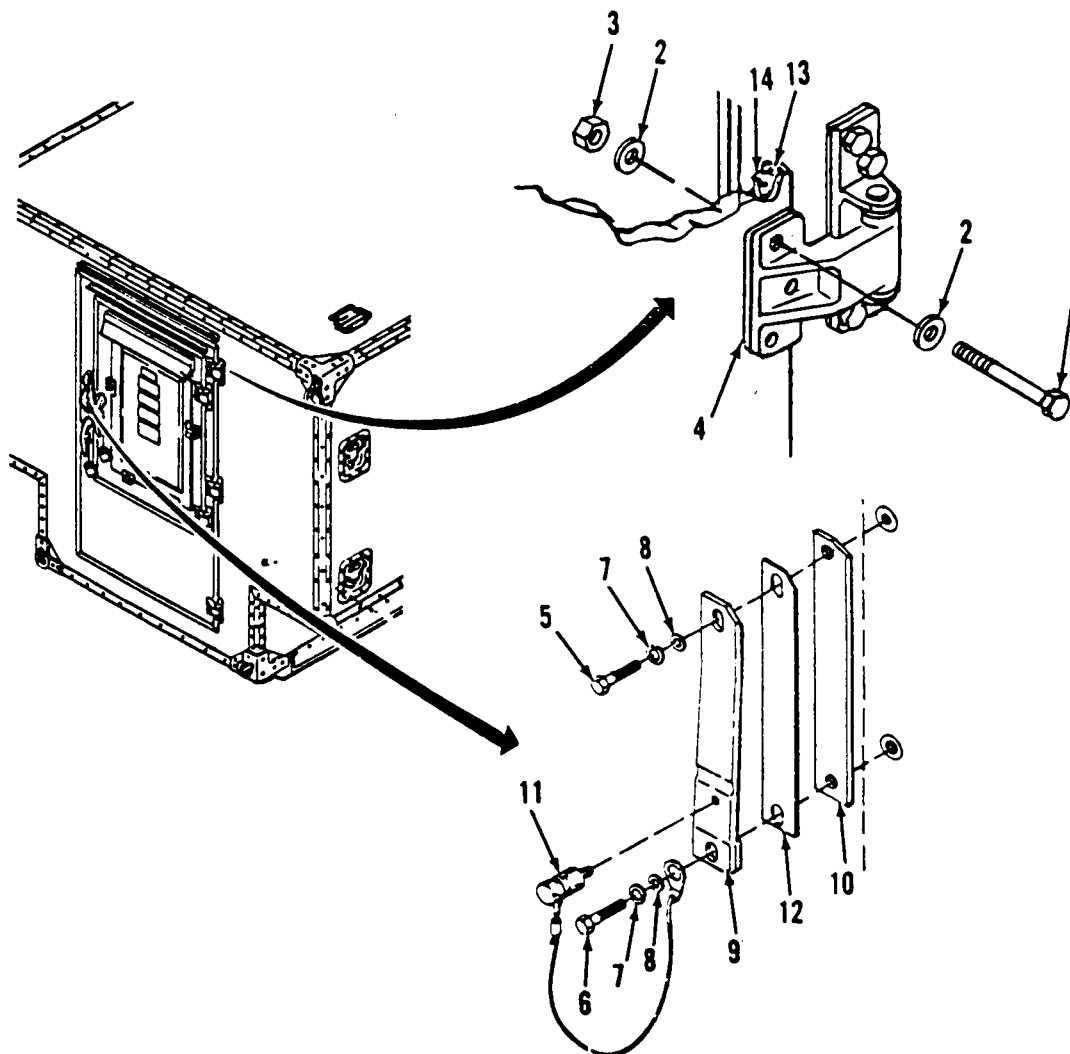

Figure 3-20. Weather Gasket and Seal Pressure Adjustment.
*a.* Inspect. (Figure 3-20)
- (1) Inspect the door assembly (2) for external damage.
- (2) Inspect the silicone weather gasket (15) for tightness.
- (3) Inspect the RFI/EMI gasket for wear and secure mounting.
- (3) Withdraw the paper. Resistance to the withdrawal of the paper indicates proper seal pressure. If there is no resistance, perform the adjustment procedure contained in the following paragraphs.
- (4) If there is resistance to the withdrawal at all of the test points, sufficient seal pressure exists on the silicone weather gasket and adjustments are not necessary.
*c* . Adjust. (Figure 3-20) Adjustment to increase the seal pressure on the silicone weather gasket can be made on the hinged side of the door and on the roller latch side of the door, as described in the following paragraphs:
- (1) Weather Gasket Pressure Adjustment. To increase the weather gasket pressure on the hinged side of the door, proceed as follows
- (a) Open the door and remove and retain three bolts (1), six flat washers (2), and three self-locking nuts (3) attaching the hinge to the door.
- (c) Insert shim (4), approximately 0.032 inches thick and matching the hinge body in size, between the hinge leaf and the door.
- (d) Secure the hinge leaf to the door using three bolts (1), six flat washers (2), and three self-locking nuts (3).
- (f) After completion of adjustment procedure, apply a continuous bead of sealer around shim (4) and hinge leaf, and around head of bolts (1).
- (2) Seal Pressure Adjustment. To increase the seal pressure on the roller latch side of the door, proceed as follows
- (a) Open the door and remove and retain the hex head screws (5 and 6), flat washers (7), and lock washers (8) from the top and bottom hole attaching the keeper (9) to the wall, and remove keeper and shim (10). Remove detent pin (11) from center keeper.
d. **Replace.** (Figure 3-20) To replace the RFI/EMI gasket (13), remove gasket from track and clean track of any dirt. Place new gasket over track and snap in place. To replace the silicone weather gasket (14), proceed as follows
- (1) Remove gasket (14) and clean track from adhesive residue.
- (2) Apply sealer in track groove all around door and snap new gasket in place in track on door.